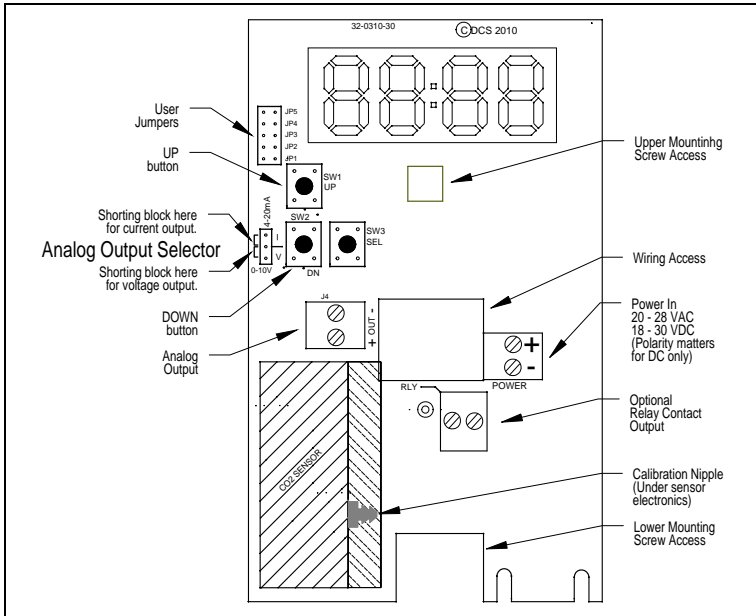

Figure 2: Model CD-AW Component Locations
The locations of controls and terminals on the main circuit board are shown in the Figure 2 on page 5.
This section describes the external connections to the Model CD-AW. Figure 2 shows the location of the components described in the following sections.
The Model CD-AW will operate from an AC or DC input voltage between the values called out in the specifications on page 3. The power supply leads are connected to the two-terminal power connector, shown in Figure 2.
When operating from DC power, the polarity of the power leads must be as shown in Figure 2. Reversed polarity
1. **Note whether the shorting block at jumper JP5 is covering both pins or only a single pin**, then borrow the shorting block and slide it over the two pins of jumper JP3 (see Figure 2 on page 5).
1. **Note whether the shorting block at jumper JP5 is covering both pins or only a single pin**, then borrow the shorting block and slide it over the two pins of jumper JP3 (see Figure 2 on page 5). Use a narrow-bladed screwdriver or the like to momentarily connect the two pins of JP1 while JP3 is closed.
1. **Record whether the shorting block at jumper JP5 is covering both pins or only a single pin**, then borrow the shorting block and slide it over the two pins of jumper JP4 (see Figure 2 on page 5).
JP2 (see Figure 2 on page 5). Use the 'UP' and 'DOWN' buttons to change the indicated concentration to the value just calculated.
2. If there is no display on the unit being calibrated, connect a meter to the analog output terminals. Check the setting of the analog output selector (see Figure 2 on page 5) to determine whether the unit is set for voltage or current output.
Otherwise **note whether the shorting block at jumper JP5 is covering both pins or only a single pin**, then borrow the shorting block and slide it over both pins of jumper JP2 (see Figure 2 on page 5).
7. Use the 'UP' and 'DOWN' buttons (see Figure 2 on page 5) to adjust the reading.